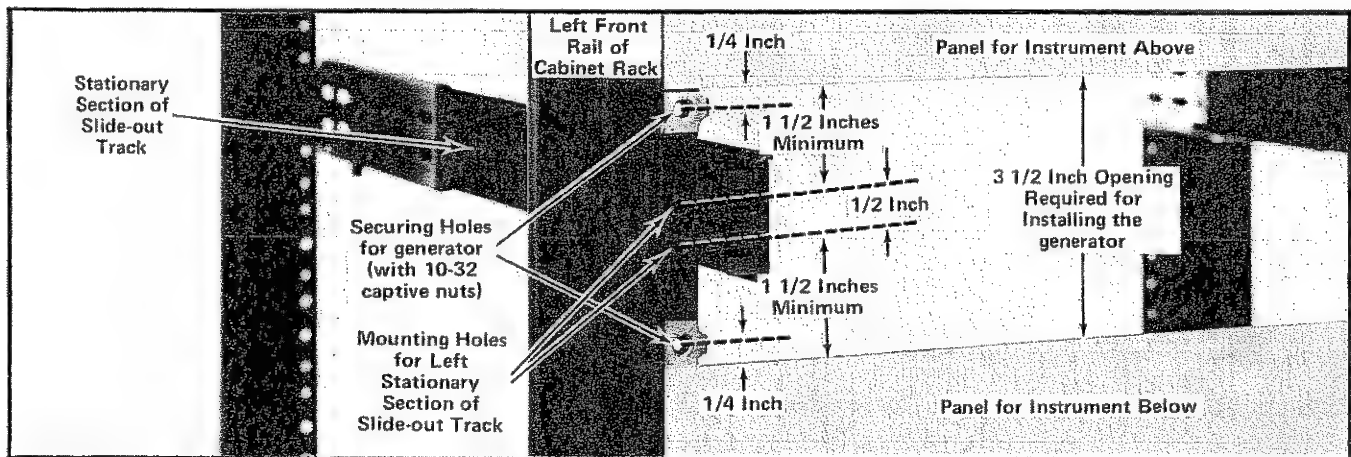

Fig. 5-5. Vertical mounting position of the left stationary section and location of the securing holes. These same dimensions apply to the right front rail.
Mounting Procedure—Use the following procedure to mount both sets. See Figs. 5-5 and 5-6 for installation details.
1. To mount the instrument directly above or below another instrument in the cabinet rack, select the appropriate holes in the front rack rails for the stationary sections using Fig. 5-5 as a guide.